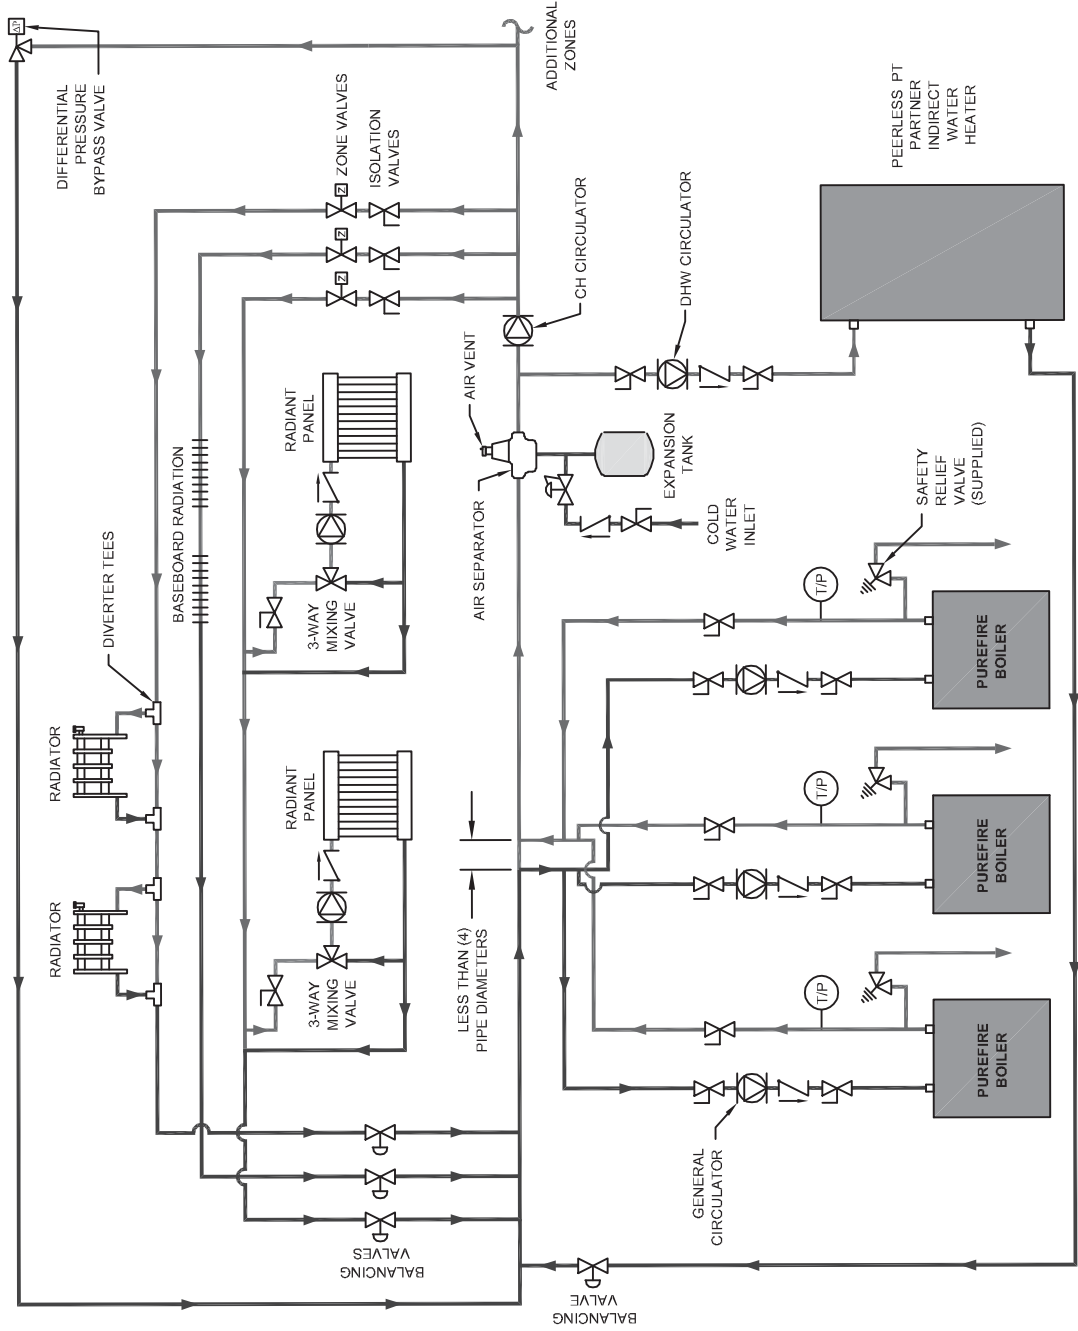

Figure 4.9: Three Boilers, Primary/Secondary with Four Zones (Zone Valves)
- 5. In Figure 4.9 zone valves are used instead of zone circulators. Notice that the system is piped using reverse return piping to help balance the flow through the zones. If the zone lengths vary balancing valves are required on each loop.